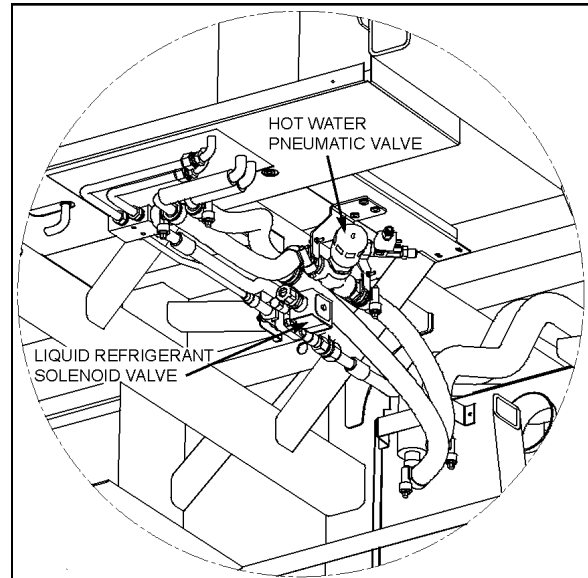

FIGURE 41: CEILING OF THE SPARE WHEEL COMPARTMENT
2. Locate the normally open water pneumatic valve on the ceiling of the spare wheel compartment (Fig. 41), move the pilot-solenoid valve red tab to close the valve.